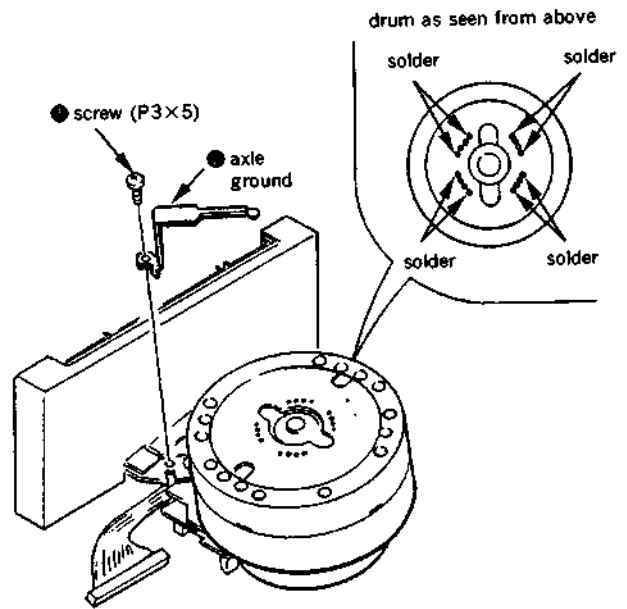

Fig. 1-4
- ① Refer to Fig. 1-4 to remove the screw ❶ (P3×5) and then remove the axle ground.
- ② Completely remove the revolving upper drum PC board and the solder at sixteen points as shown by the arrows.